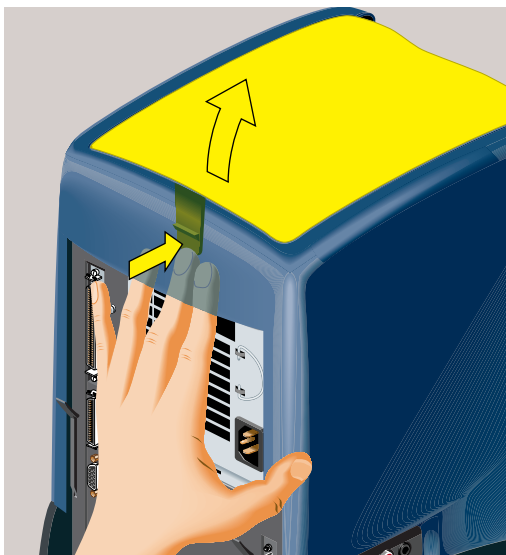

Figure 5-47 Removing the Top Cover of the CD-ROM Drive
5. Remove the top cover of the CD-ROM drive as follows (Figure 5-47).